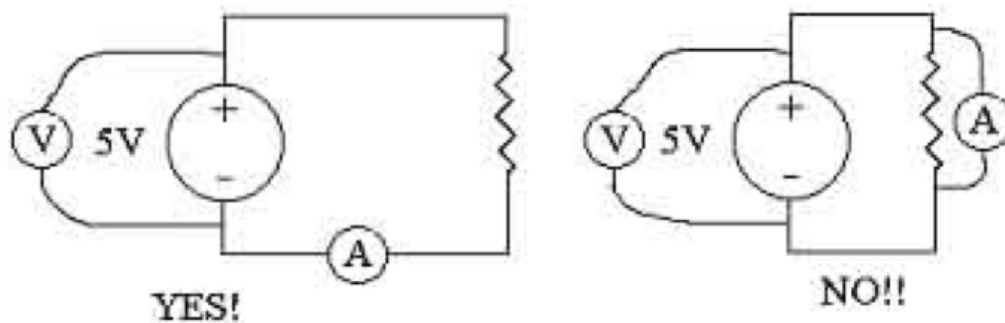

Figure 2: Diagram showing how to properly connect a voltmeter (V) and ammeter (A).
like a voltmeter and just touch the probes between two points having a voltage difference, you will have to incur the expense of buying a new fuse. See the Figure 2 below.
The power supply will produce a voltage that is constant over time; this is a DC voltage. Hook up your DMM in voltmeter (DC) mode as shown in Figure 2 above and adjust your power supply voltage to 5 Volts (which you need to measure using your voltmeter). Next, attach your resistor across the power supply's output as shown in Figure 2 (but don't put the ammeter in yet). Does the voltage change? If so, adjust it back to 5 Volts.